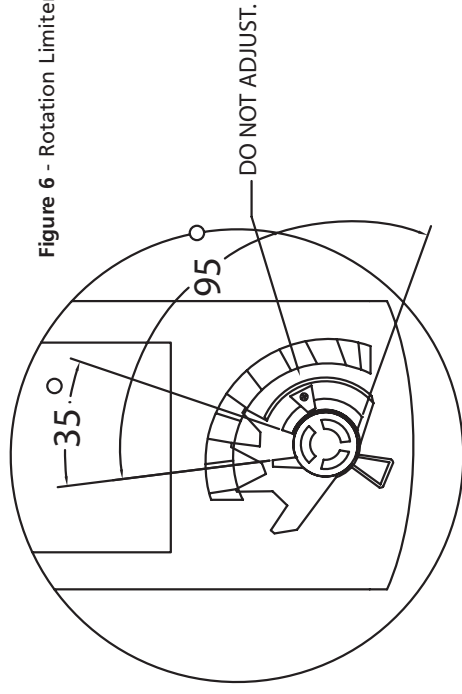

Figure 6 - Rotation Limiter
8. Rotation limiter is factory set. Changing setting may damage actuator or shutter (see Figure 6).
5. Rotation limiter is factory set. Changing setting may damage actuator or shutter (see Figure 6).
6. Rotation limiter is factory set. Changing setting may damage actuator or shutter (see Figure 6).